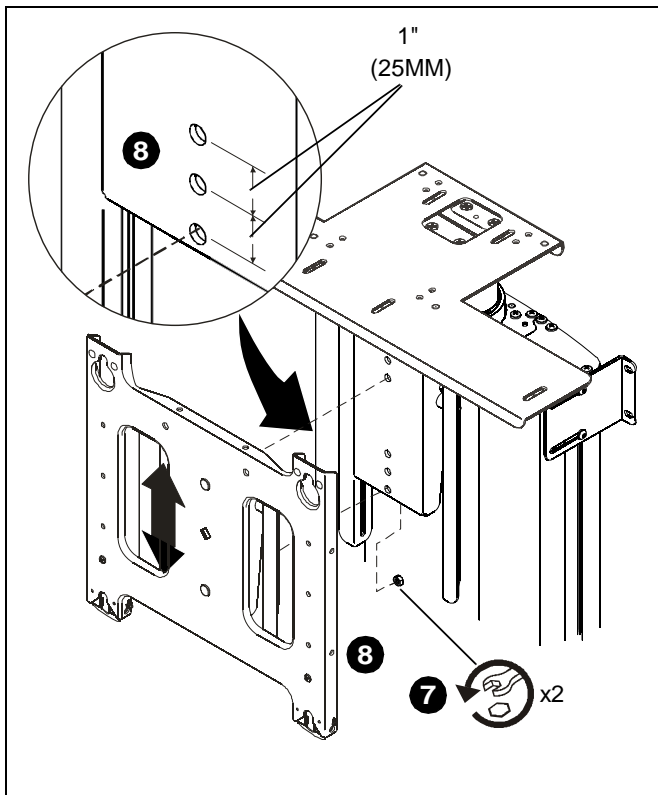

Figure 4
7. Remove two locknuts securing faceplate to faceplate mounting bracket. (See figure 4)
8. Move faceplate up one set of holes to adjust location 1" or two sets of holes to adjust 2". (See figure 4)